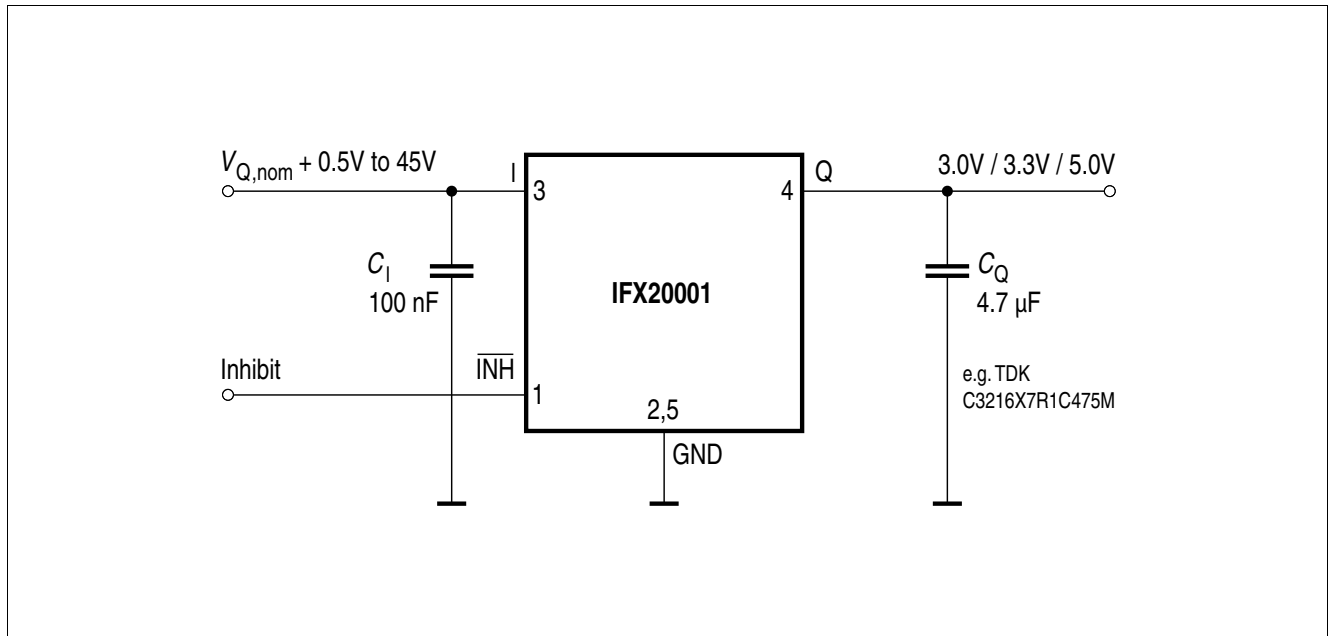

Figure 3 Application Diagram
**Figure 3** shows a typical application circuit. In order to maintain the stability of the control loop the IFX20001 output requires an output capacitor  $C_Q$  of at least 3.3  $\mu\text{F}$  with a maximum permissible ESR of 2  $\Omega$ . It is recommended to use a multi layer ceramic capacitor for  $C_Q$ . If aluminum electrolytic and tantalum capacitors are selected as output capacitors they must be carefully chosen to cover the required ESR range over the full operating temperature range of -40  $^{\circ}\text{C}$  to 125  $^{\circ}\text{C}$ .
| 1.02     | 2010-05-20 | Editorial change (fig. 3)   |